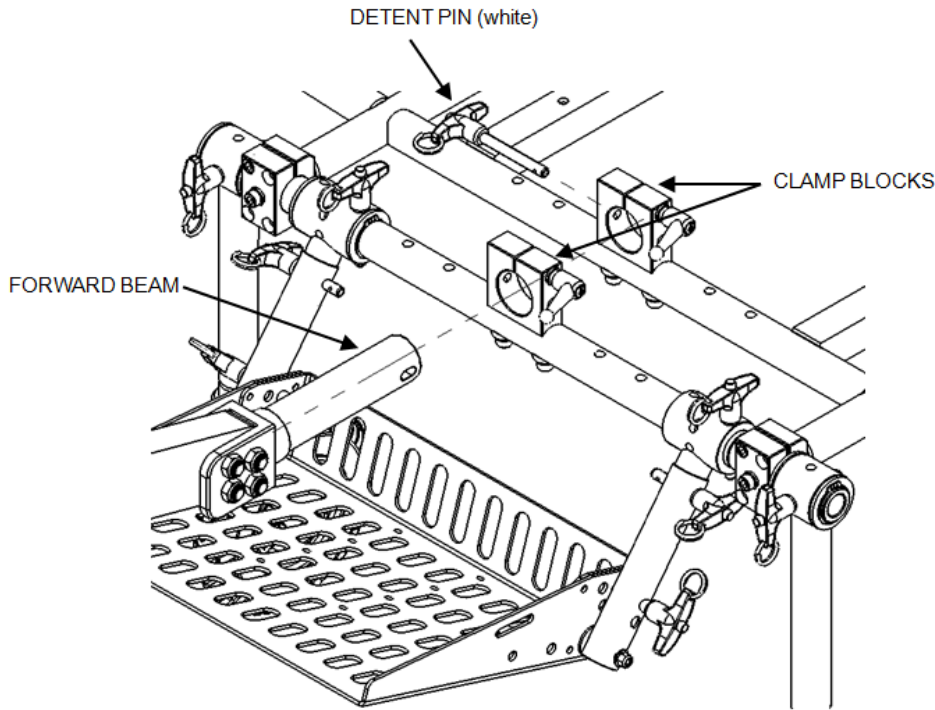
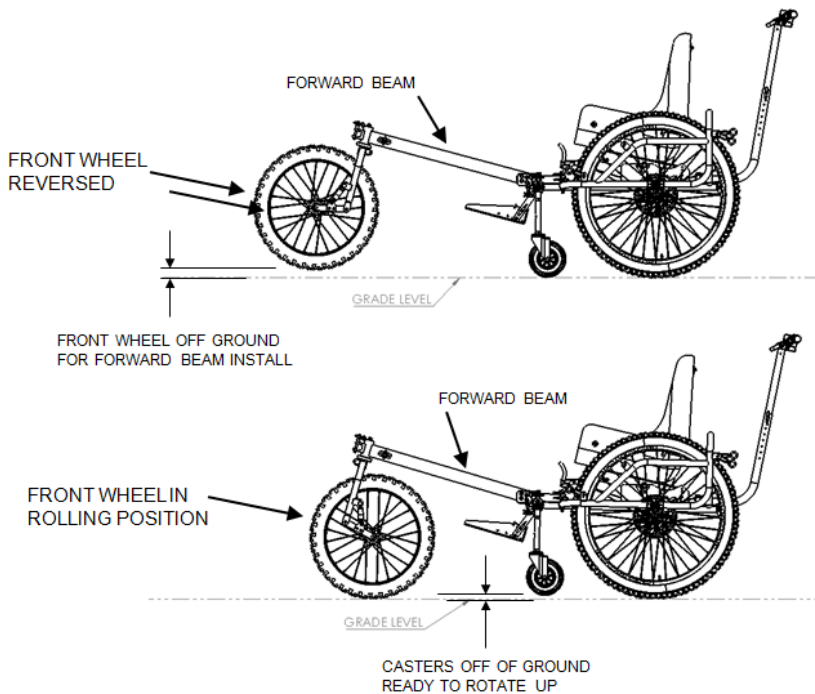

Figure 6. Installing and removing the forward beam.
Figure 7. Positioning the front wheel to install or remove the forward beam.
- ii. Rotate the front wheel forward to take pressure off the forward beam, with weight on the casters (Figure 7).
- iii. Loosen both of the forward beam clamps with the ratchet handles (Figure 6).
- iv. Unpin the white detent pin (Figure 6) from the forward beam rear clamp.
1. Reverse the front wheel to take the weight off the forward beam (Figure 7).
2. Slide the rear, round end of the forward beam into the two round clamp blocks above the standard footrest. Make sure the ratchet handles on both the clamp blocks are loose and the white detent pin is not inserted through the rear clamp block (Figure 6).
3. Insert the white detent pin through the rear clamp block and forward beam (Figure 6). The forward beam must be slid all the way into the front clamp block and may need to be rotated so the white detent pin will fit through its hole. The clamp blocks should remain loose at this step. Tighten both clamps with the ratchet handles and turn the front wheel into rolling position. This takes the weight off the caster wheels (Figure 7).